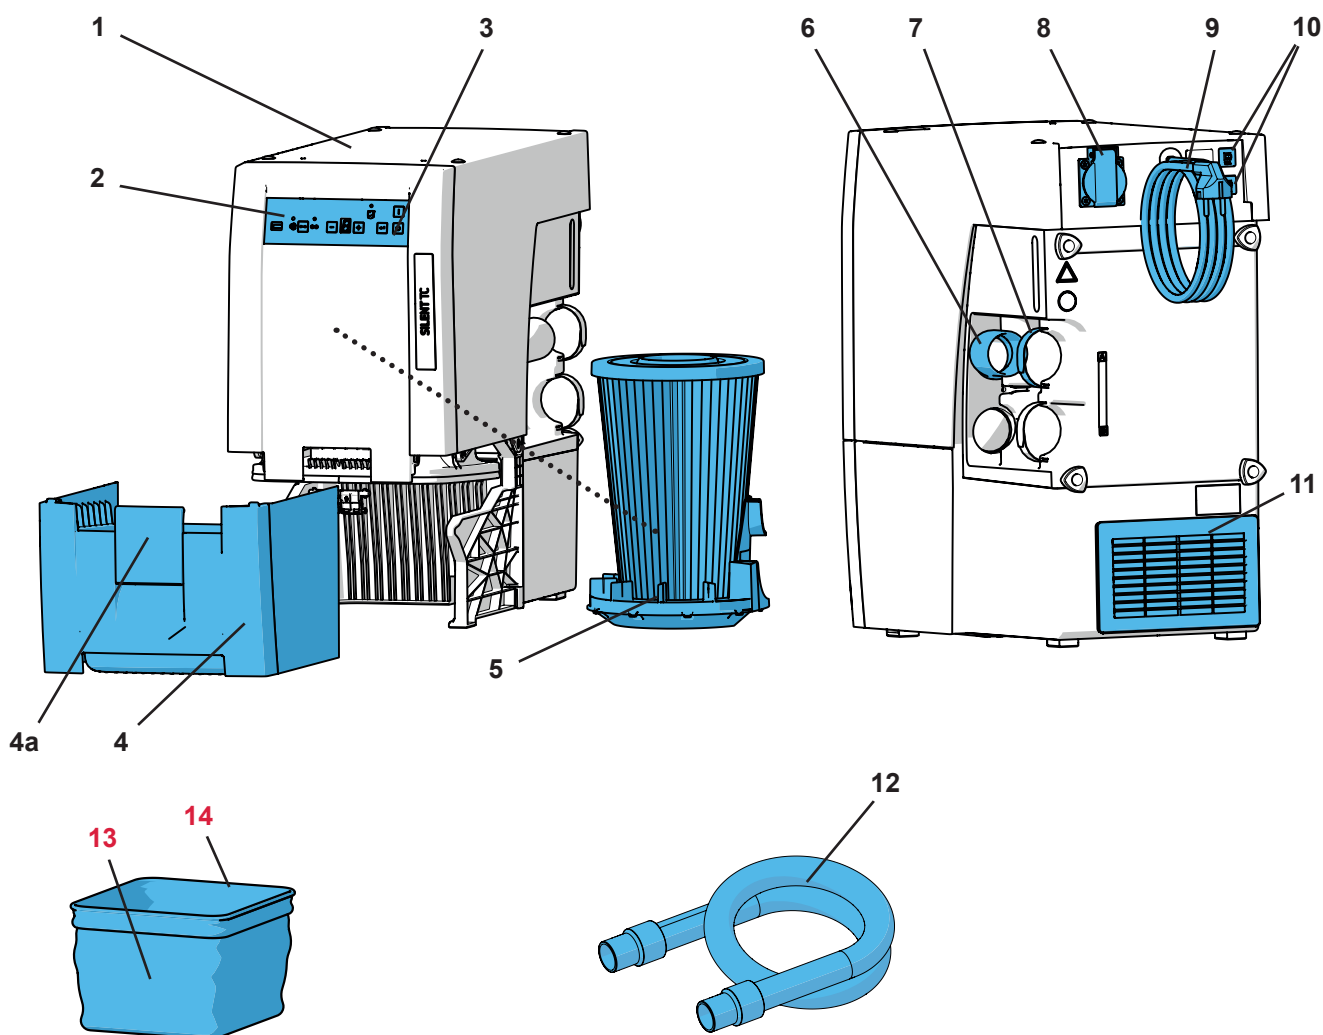

Fig. 1
- the exhaust air outlet (11, Fig. 1) is not blocked.
- External exhaust air vent (A) (see chapter 4.6).
- Opening in the cabinet wall (B), min. 250 x 120 mm, directly opposite the exhaust air outlet (11, Fig. 1).
- Remove the back side of the cabinet (C), distance from the back of the cabinet to the wall min. 50 mm.
⇒ Unroll the mains cable (9, Fig. 1) and insert the plug into the building's electrical socket.
The suction is dependent on the electrical device connected to the appliance outlet (8, Fig. 1).